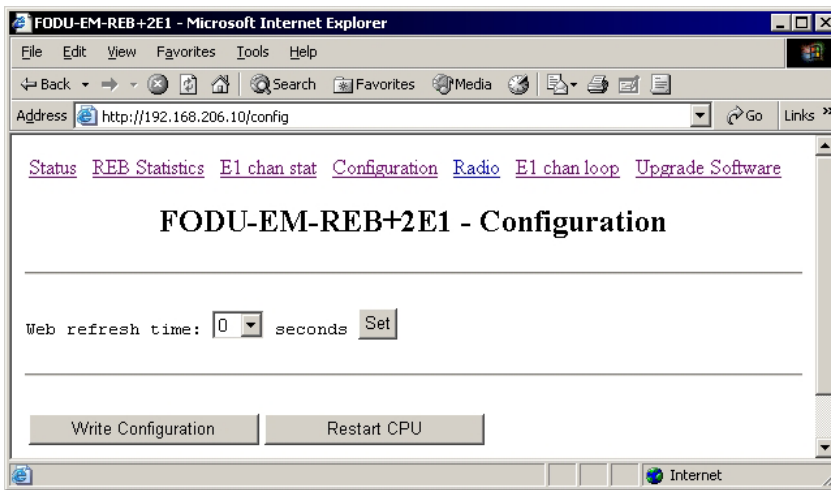
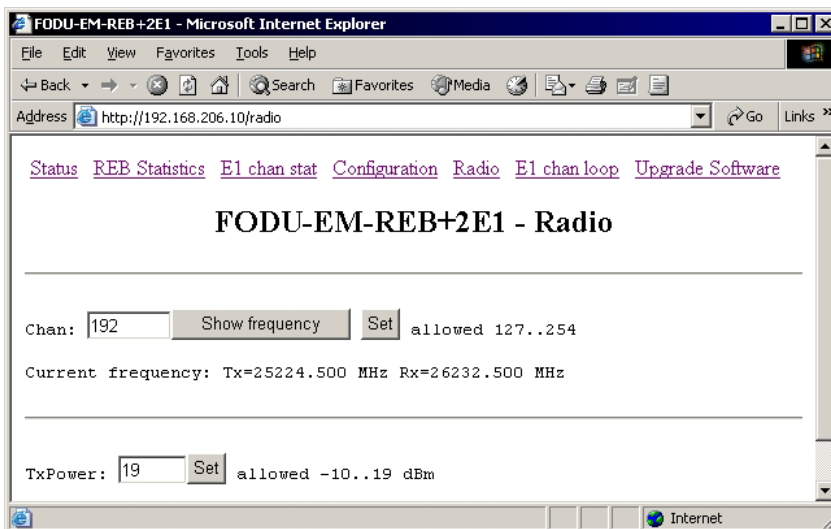
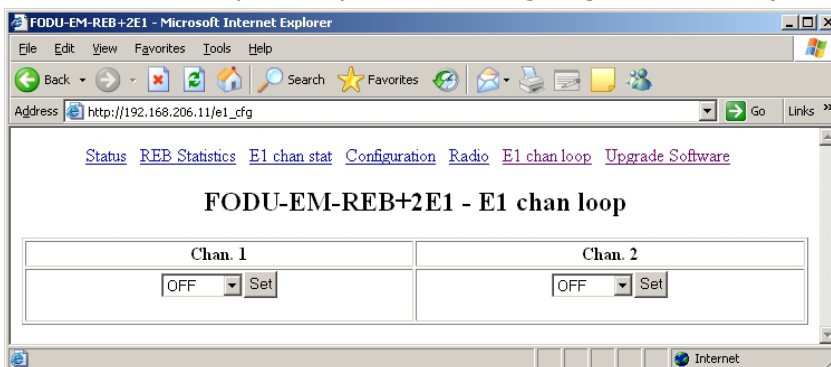

Figure 7
Figure 8
Figure 9
The Web server allows to monitor and configure the FODU from Web page via HTTP; the user can connect to Web server via Ethernet management port. In order to configure the FODU or update software, the user must specify username and password to access configurations Web pages (Figure 7, Figure 8 , Figure 9 and Figure 11), each time the user connects to Web server, he will be prompted to enter username and password once will try to open configurations or software upload page. The username and password for Web server can be specified\changed using ASCII console (via serial port), or using Telnet terminal (via 10Base-T port); in order to change username and password, it is not required to know the current username and password.
- Save current configuration in EEPROM, and restart the FODU (see Figure 7).
- Configure radio parameters: frequency and transmitter power (see Figure 8)
- Switch on/off E1 port loopbacks, analog, digital, remote (see Figure 9)